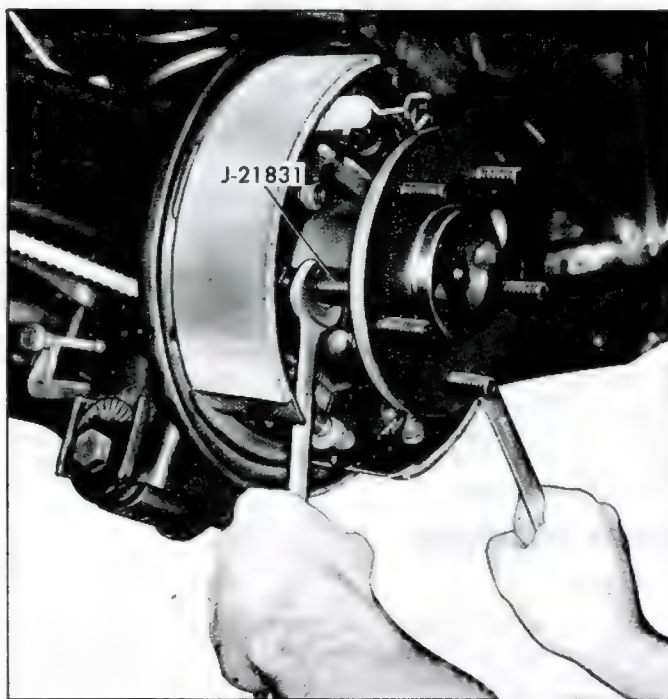

Fig. 65—Removing Wheel Drive Spindle
6. Remove two diagonally opposite nuts from spindle support retaining studs. Install Tool J-21831-1 (one on each stud) so that it bottoms against flange plate. Thread Tool J-21831-2 over J-21831-1, then remove spindle by rotating each tool an equal amount until spindle is free (fig. 65).